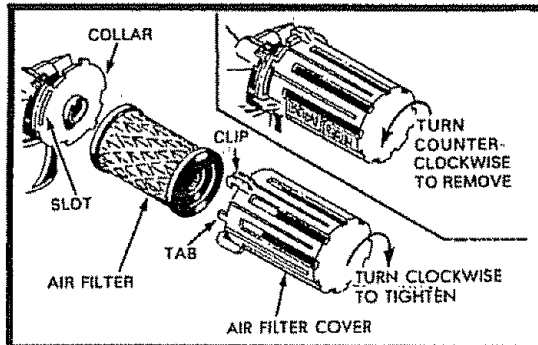

FIG. 11
- Remove the air filter cover by turning counter-clockwise to the stop and pull away from collar (See Fig. 11).
- Remove filter from inside of cover (See Fig. 11).
- Push in on cover and turn clockwise to tighten (See Fig. 11).